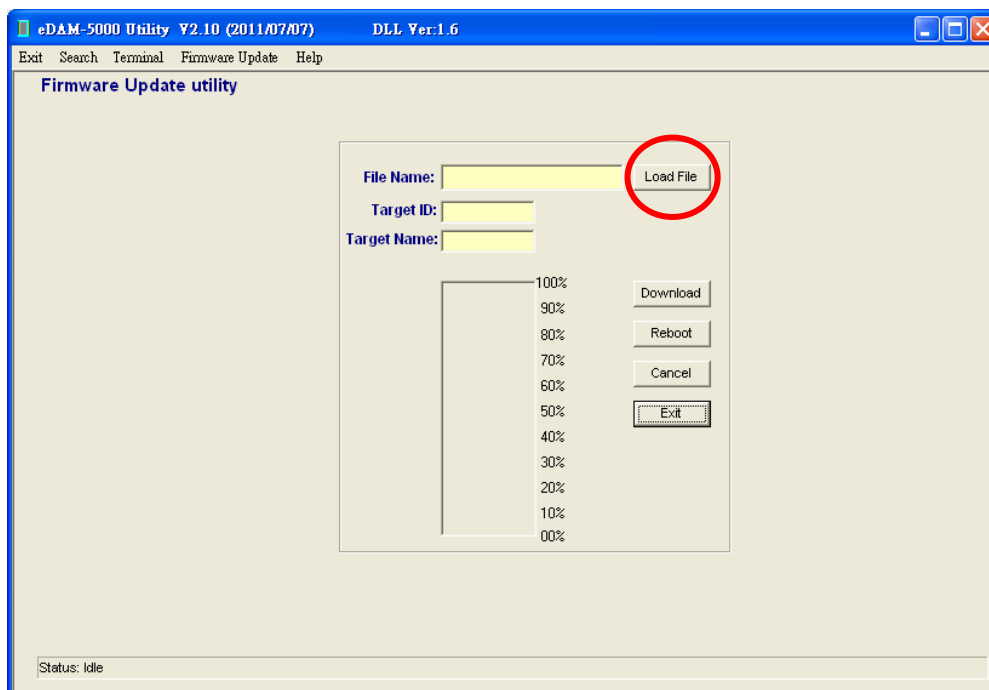

Figure 15-5
5. Click "Load File" button to load firmware file (see Figure 15-5)